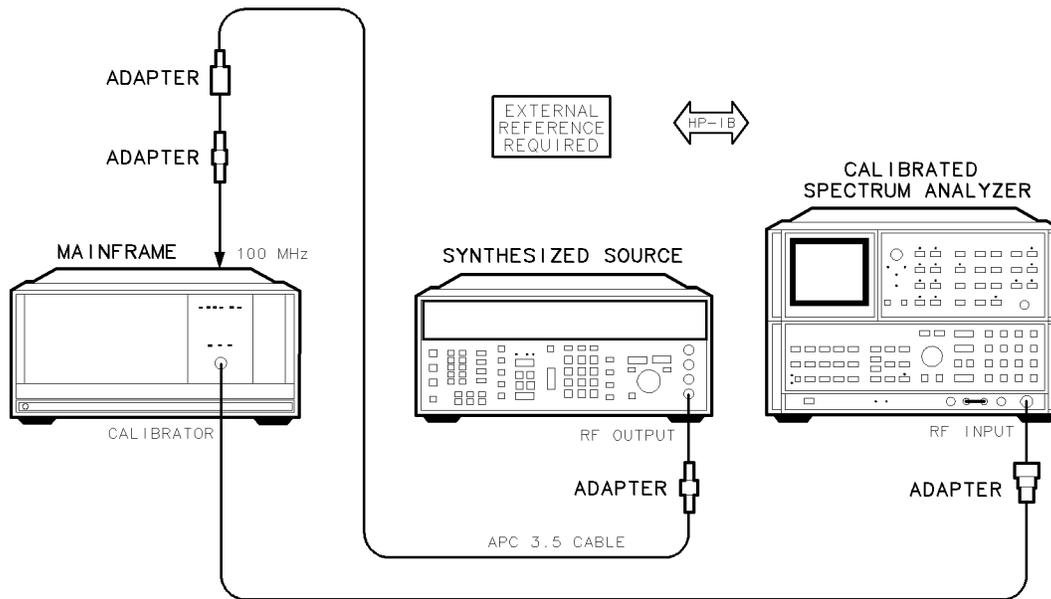

Figure 7-28. External Reference Test Setup
1. Connect the HP 8566B spectrum analyzer’s RF INPUT to the DUT’s CALIBRATOR using the adapter as shown in Figure 7-28.
2. Connect the HP 8663A synthesized signal generator's RF OUTPUT to the DUT's 100 MHz rear-panel input using the adapters and the APC 3.5 cable, as shown in Figure 7-28.